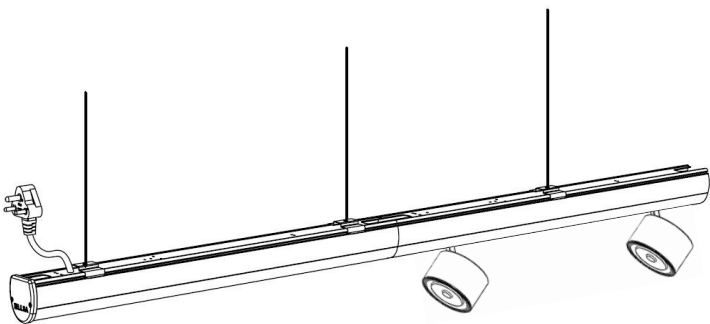

FIG. 2
- Clip the next slave fitting into position . Fig. 2
- Guide the extrusion to the next extrusion . Fig. 2